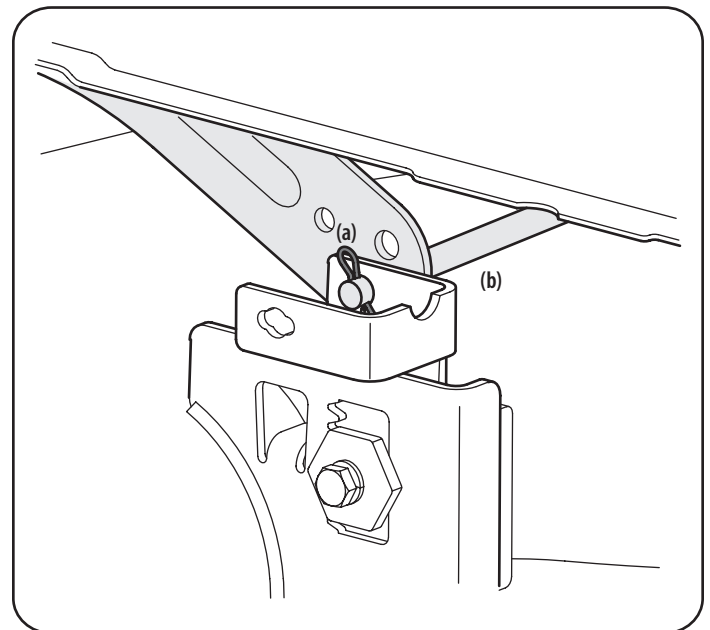

Figure 12
- Looking at the cutting deck from the left side of the tractor, locate the bow-tie pin (a) that secures the deck support rod (b) on the rear left side of the deck. See Figure 12. Remove the bow-tie pin (a) that secures the deck support rod (b), and carefully remove the deck support from the deck lift arm.